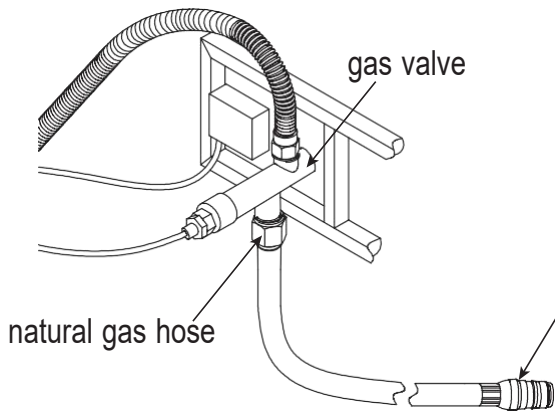
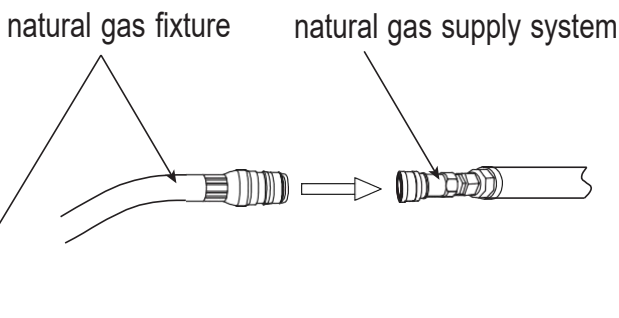

Figure 11
Figure 12
4. Connect the natural gas hose to the gas valve by screwing clockwise tightly (see Figure 11). Plug the natural gas fixture into the natural gas supply system (see Figure 12). The conversion kit should be CSA certified. Below are several suggested CSA certified conversion kits for your reference.